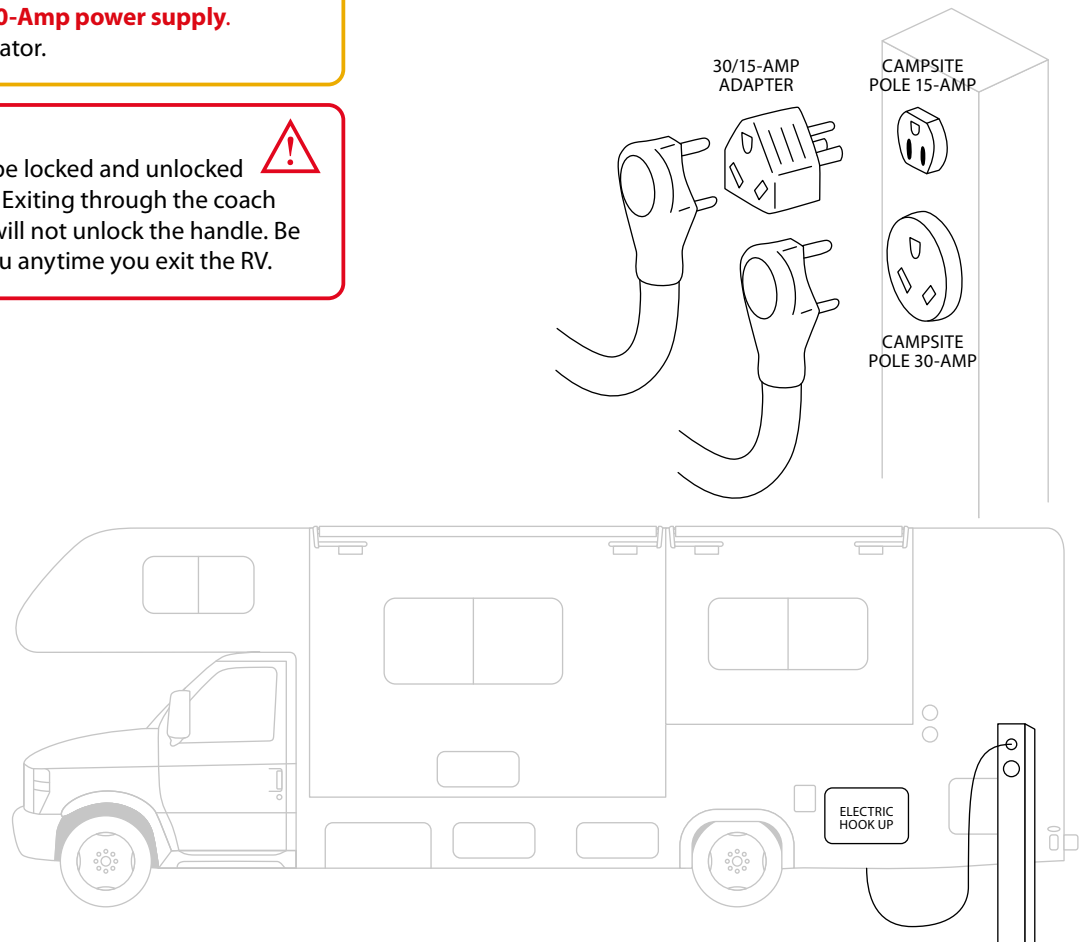

FIGURE 8: ELECTRIC HOOK UP
6. Contact campsite staff if there is no breaker located on the campsite power pole and you don't see 4 red LED lights when pushing and holding the BATT button on the monitor panel. See FIGURE 8: ELECTRIC HOOK UP on this page.